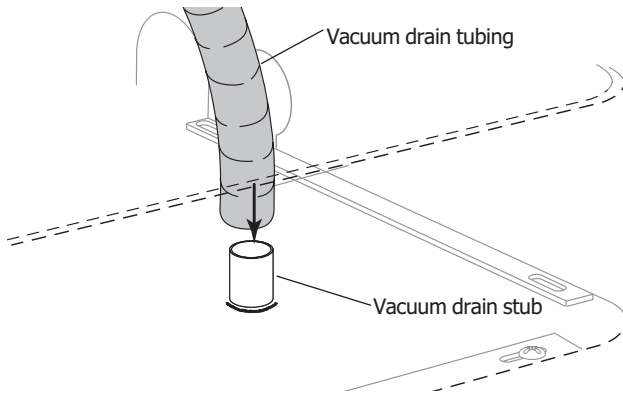

Figure 21
3. Identify the vacuum tubing and push it onto the vacuum stub (see Figure 21).